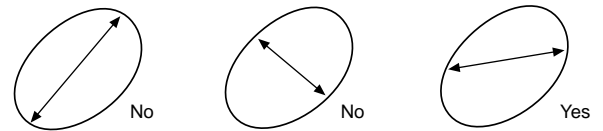

Figure 7b: Measure between the long and short axis.
- (b) Not circular, - measure between the long and short axes as shown in Figure 7b.